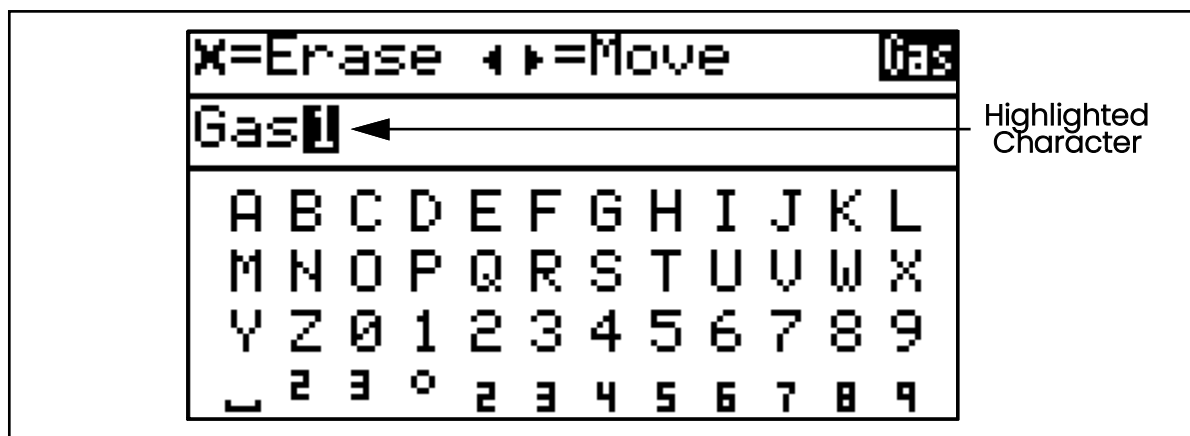

Figure 47: Text Edit
- Pressing the Down arrow will move the highlight to the **Text Edit** section (see *Figure 47* below):